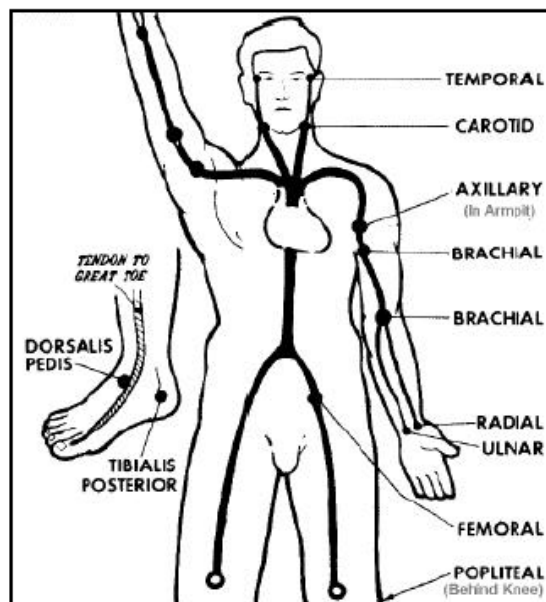

Figure 16-2. Pressure points.
- Use a pressure point between the injury and the heart (Figure 16-2).